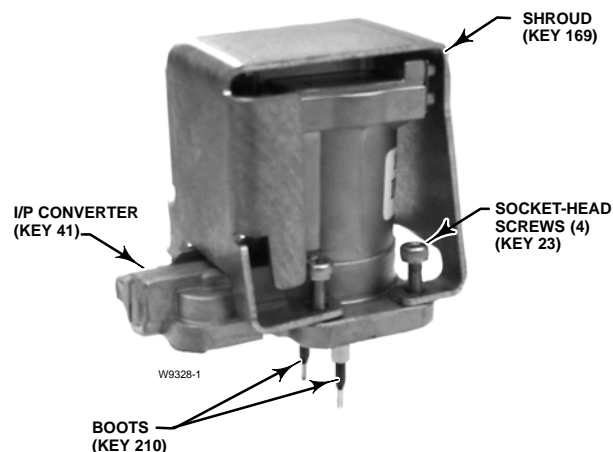

Figure 7-4. I/P Converter
1. Remove the front cover (key 43), if not already removed.
2. Refer to figure 7-4. Using a 2.5 mm hex socket wrench, remove the four socket-head screws (key 23) that attach the shroud (key 169) and I/P converter (key 41) to the module base (key 2).
3. Remove the shroud (key 169); then pull the I/P converter (key 41) straight out of the module base (key 2). Be careful not to damage the two electrical leads that come out of the base of the I/P converter.
4. Ensure that the O-ring (key 39) and screen (key 231) stay in the module base and do not come out with the I/P converter (key 41).
2. Ensure the two boots (key 210) shown in figure 7-4 are properly installed on the electrical leads.
3. Install the I/P converter (key 41) straight into the module base (key 2), taking care that the two electrical leads feed into the guides in the module base. These guides route the leads to the printed wiring board assembly submodule.
4. Install the shroud (key 169) over the I/P converter (key 41).
5. Install the four socket-head screws (key 23) and evenly tighten them in a crisscross pattern to a final torque of 1.6 N•m (14 lbf•in).